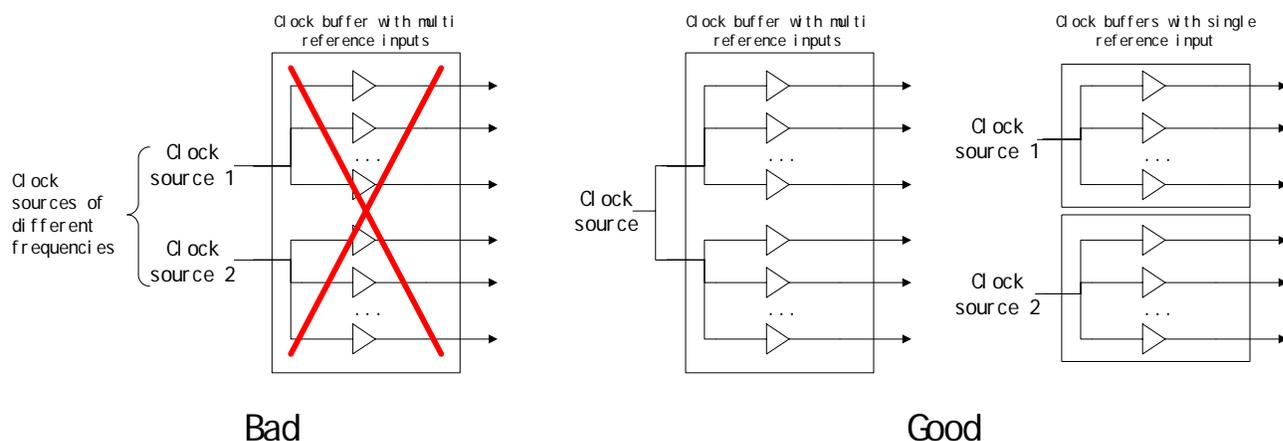

Figure 2. Using fan-out buffers
- Provide a single clock source for each fan-out buffer. Never mix frequencies. Refer to Figure 2.